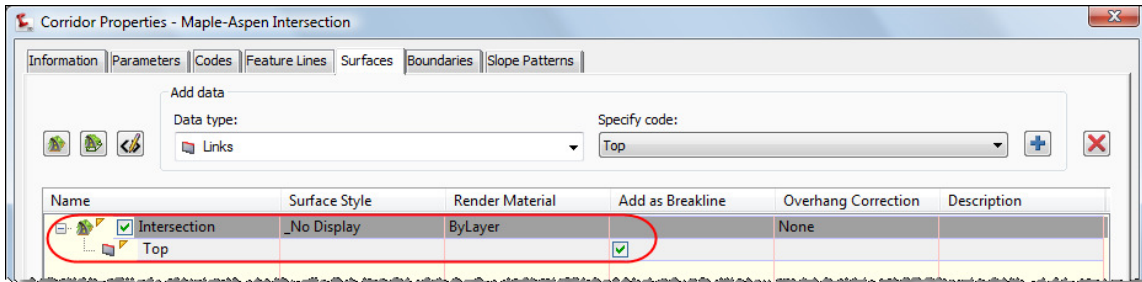

Figure 15
- Toggle on **Add as Breakline** to ensure a correct surface in the intersection later on (see Figure 15).